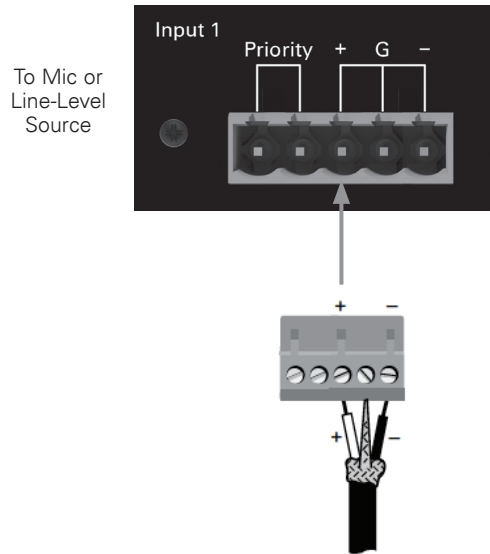

Figure 2.3
- Mic / Line Connector (CH1): 5-pin Euroblock, balanced, pins 3, 4 and 5 (Figure 2.3).